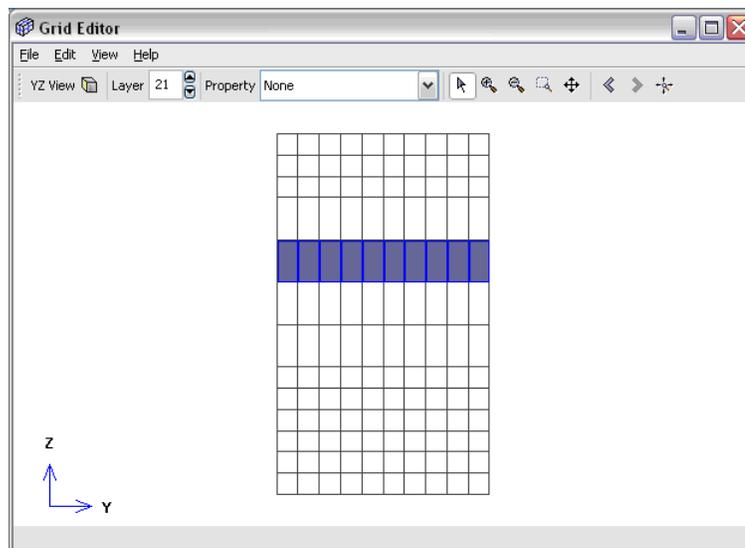

Figure 3.12. The remaining cells to be selected
1. Click and drag to select the cells shown in Figure 3.12.